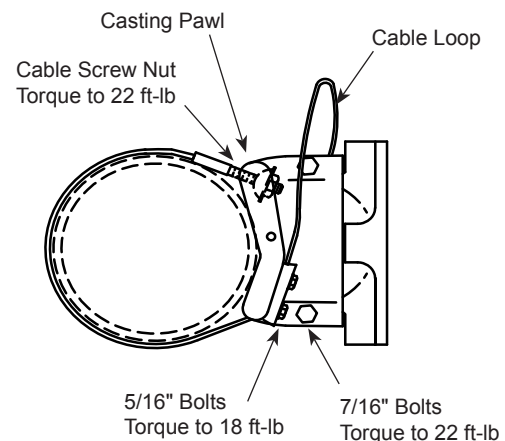

Figure 2
4. Place the cable screw assemblies in the casting pawls of the female clamp as shown. (Figure 2)
6. Torque the eight (8) cable plate 5/16" bolts to 18 ft-lb. **DO NOT OVERTIGHTEN.**
8. Plumb and level the clamp kit as needed on the mast arm and using a 3/8" open end wrench, hold the cable screw and torque the left cable screw assembly nut to 22 ft-lb. (Figure 2). Do not allow cable to rotate while torquing nut.
9. Torque the (2) 7/16" hex bolts on the female half of the clamp kit to 22 ft-lb of torque. **DO NOT OVERTIGHTEN.**
10. Using a 3/8" open end wrench, hold the cable screw and torque the right cable screw assembly nut to 22 ft-lb. (Figure 2). Do not allow cable to rotate while torquing nut.